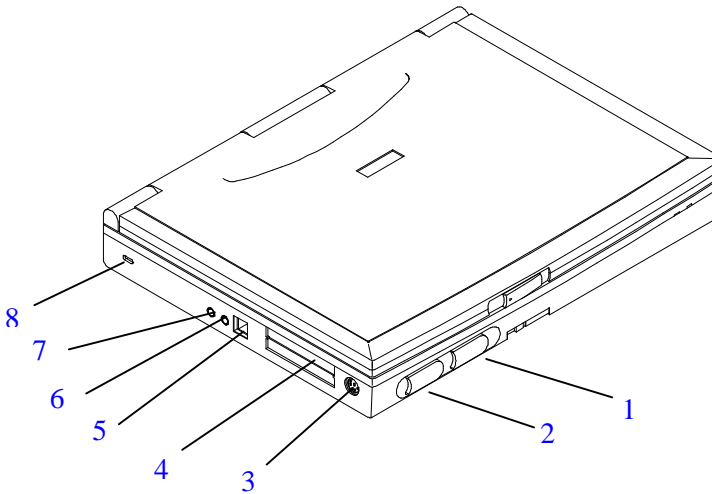

Figure 1-2: Left Front View with Display Panel Closed
3. Locate the AC Adapter port on the notebook. If you are facing the front of the notebook, the AC port is located on its left side. Refer to **Figure 1-2** if you are still having trouble locating this port. Line up the port's pins with the holes in the connector and insert the cable into the port. Again, do not attempt to force a connection.